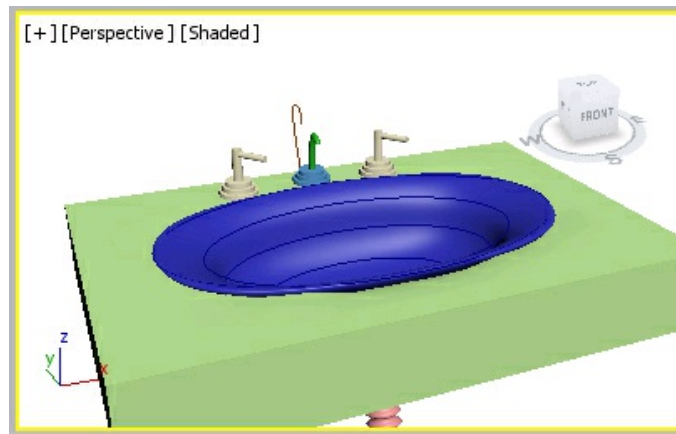

Figure 10-78 Alignment of upper tap and base
9. Group the line spline and the cylinder as *upper tap* and then align it with *base* in viewports using the **Select and Move** and **Select and Rotate** tools, as shown in Figure 10-78.